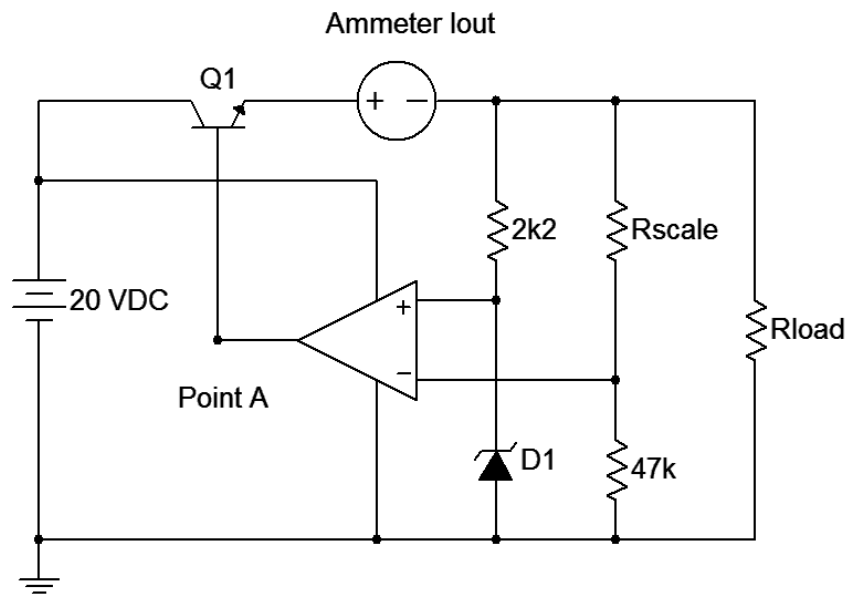

Figure 1
3. Connect the circuit of Figure 1 using an  $R_{scale}$  of 47k  $\Omega$ , and an  $R_{load}$  of 100k  $\Omega$ .